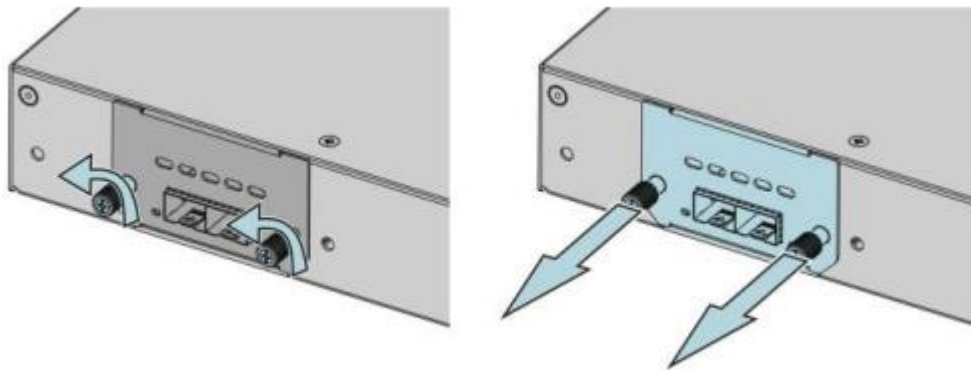

Figure 34: Removing the media module
- ☐ Pull the media module out of the slot. See Figure 34.